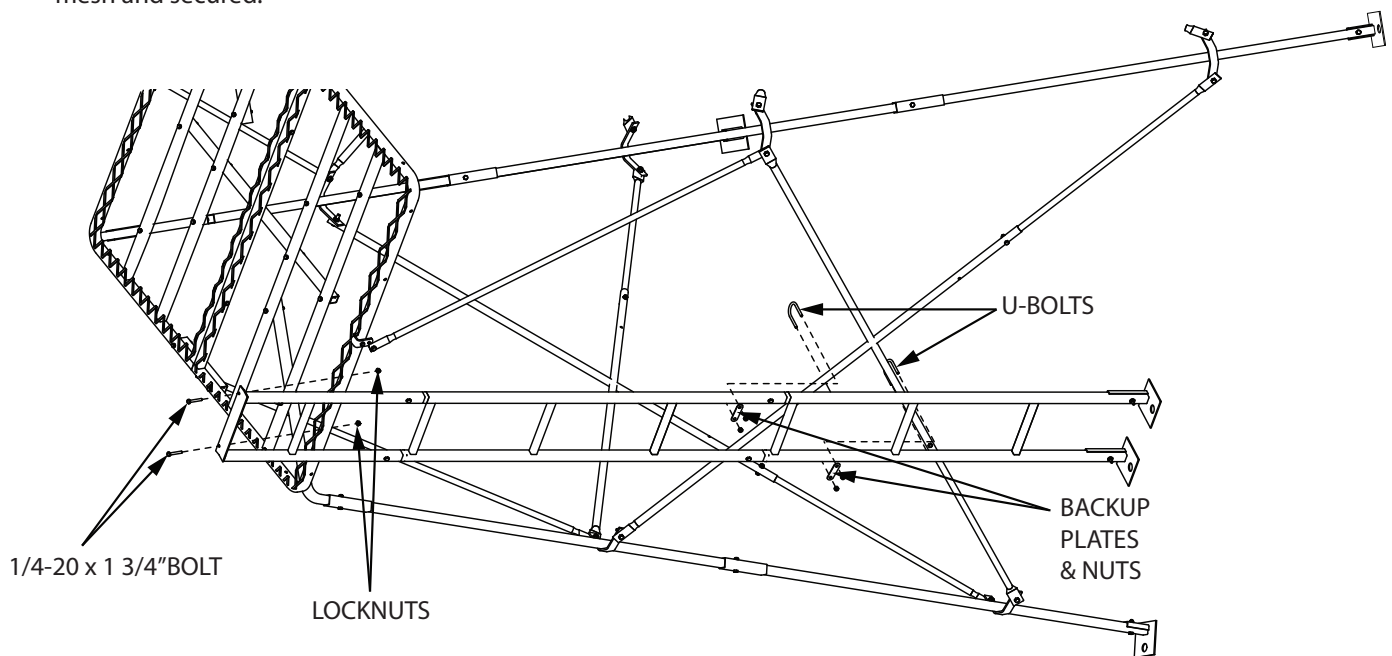

FIGURE 13
22. Attach assembled ladder to the platform using (2) provided 1/4-20 x 1-3/4" bolts and locknuts. See figure 13. Plate of top ladder section should be mounted on top side of platform.
23. Attach the ladder assembly to the cross braces using the (2) provided U-bolts/backup plates/nyloc nuts and tighten securely. This will hold the ladder securely to the cross braces. See figure 13.